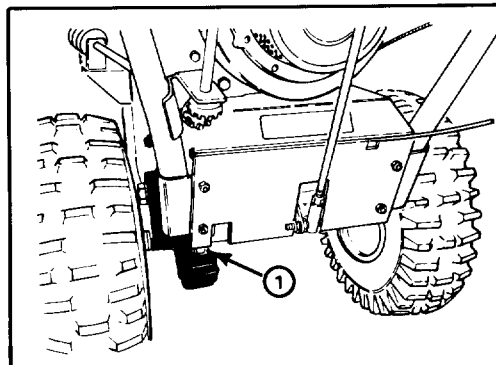

Figure 21
1. Annually, lubricate drive chain with chain lubricant (Fig. 21). Wipe up any excess oil.